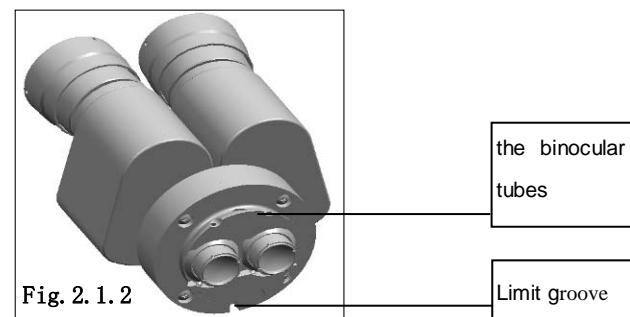

Fig. 2.1.2
10. Take out the binocular tubes of microscope part (Fig.2.1.2) , match the groove on the binocular tubes with the pin on the microscope body. Fasten the fixing screw on the body to the microscope. **ATTENATION: Don't touch the objective and eyepiece when assembling.**